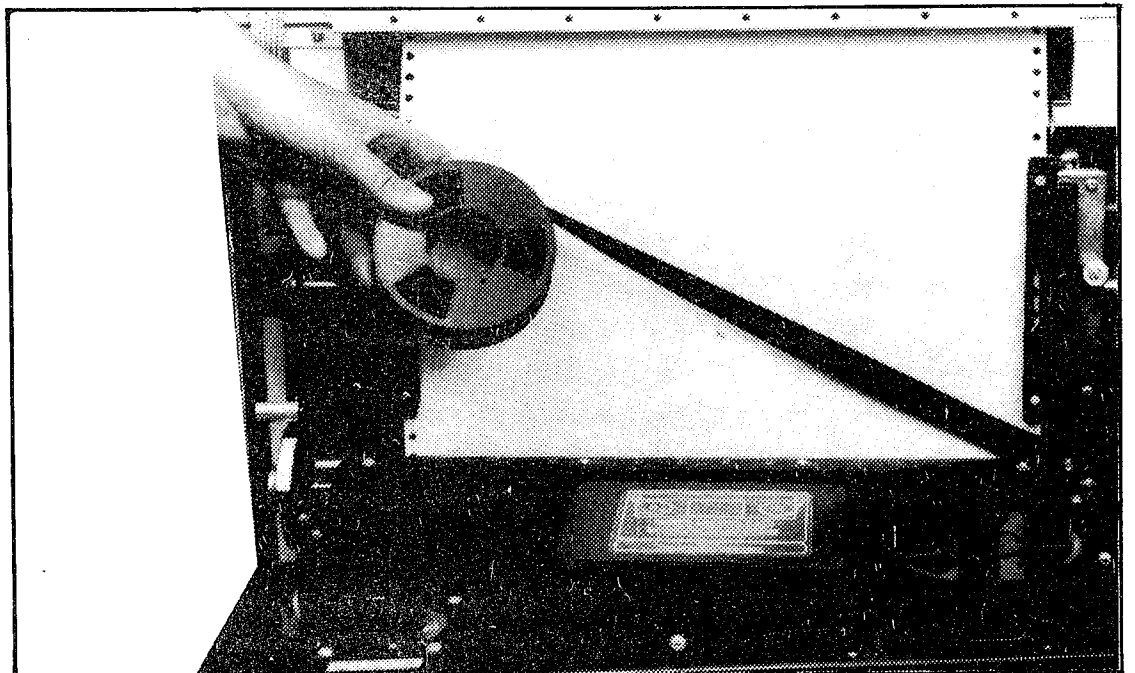

Figure 9. Replacing Ribbon
- Raise lock lever on each hub, lift off ribbon spools and clear ribbon from left and right guides (Figure 9).